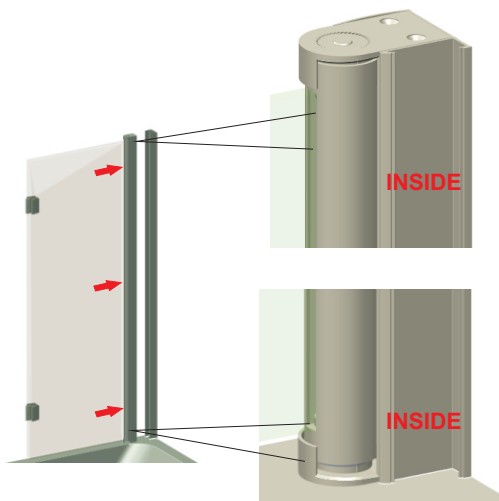

**FIG 2**
2. Plumb the wall profiles using the vertical element of the spirit level. Mark 3 holes, drill with 6mm masonry bit and fit wall plugs. Using the 3 screw fix wall profile to wall. **Fig 2.**